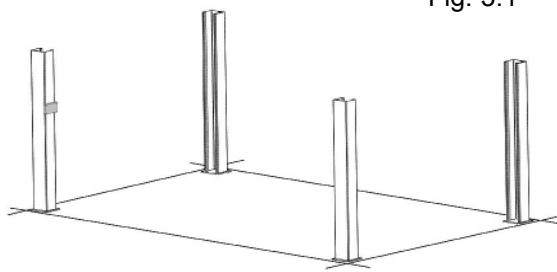

Fig. 3.1
1. Place a chalk line on the floor according to the floor plan layout. Pay attention to the Power Unit location. Locate and stand the Columns at their respective locations. **DO NOT BOLT** columns down at this time. Use caution to prevent the Columns from falling over. (See Fig. 3.1)